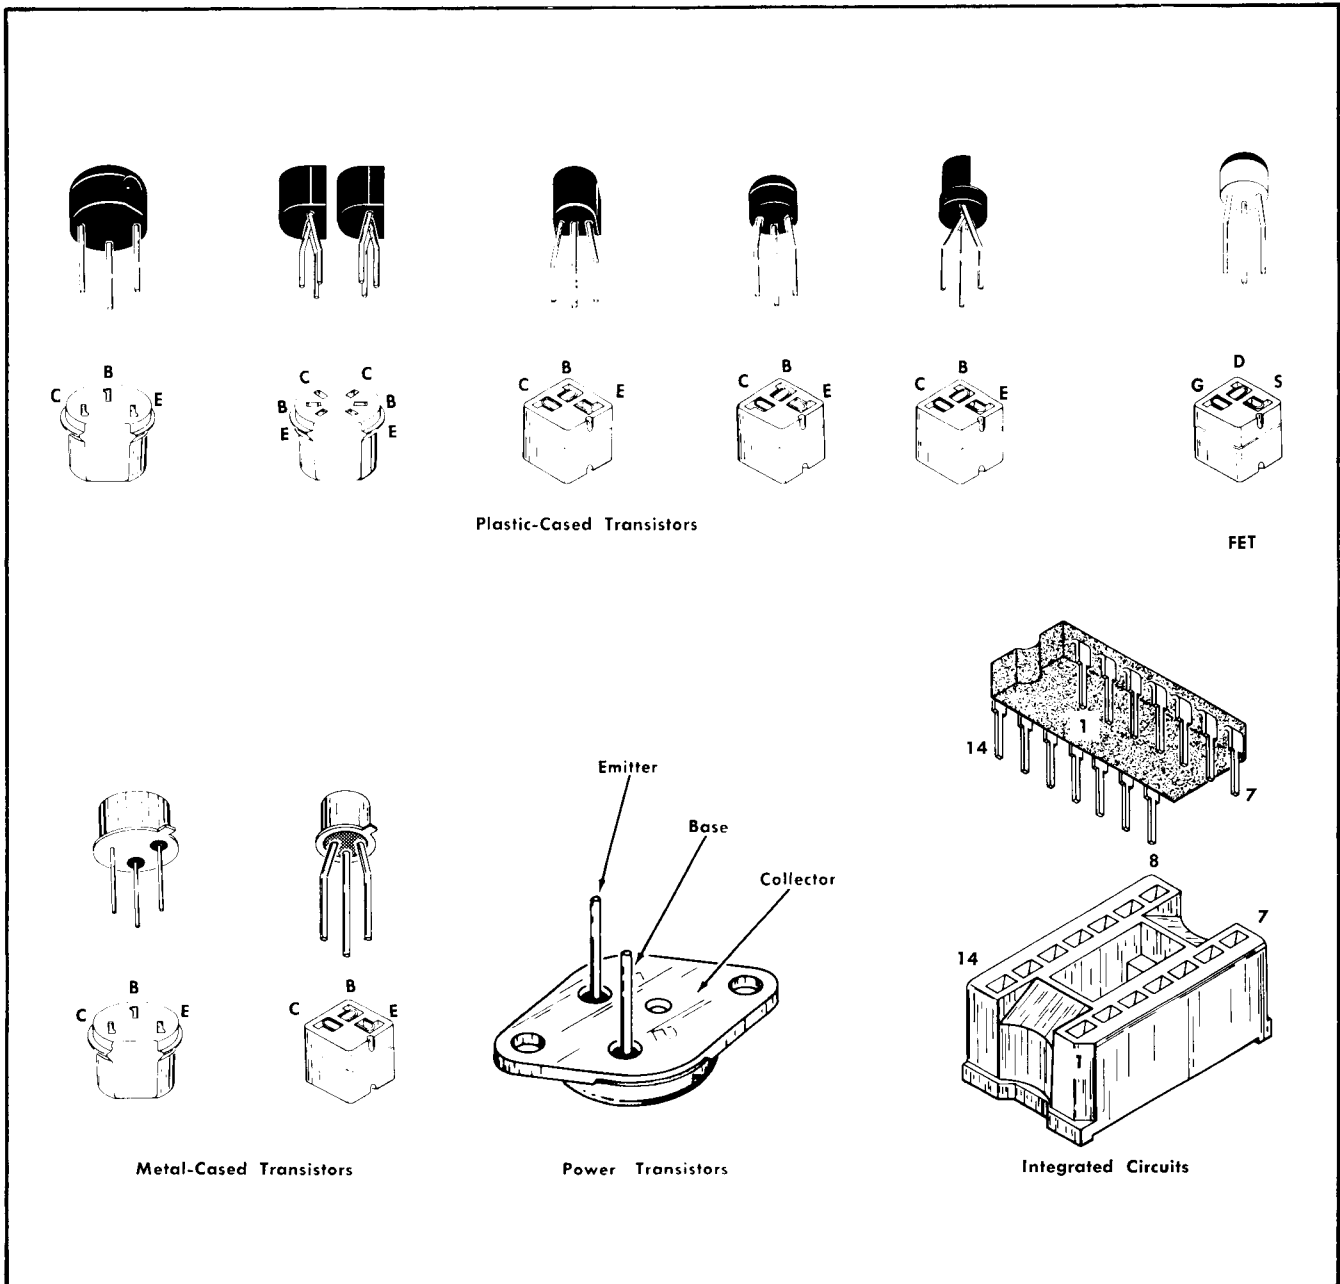

Fig. 4-2. Transistor and integrated circuit electrode configuration data.
**A. TRANSISTORS and INTEGRATED CIRCUITS.** The best check of transistor and integrated circuit operation is actual performance under operating conditions. If a transistor is suspected of being defective, it can best be checked by substituting a new component or one which has been checked previously. However, be sure that circuit conditions are not such that a replacement transistor might also be damaged. If substitute transistors are not available, use a dynamic tester (such as Tektronix Type 575). Static type testers may be used, but since they do not check operation under simulated operating conditions, some defects may go unnoticed. Fig. 4-2 shows transistor base pin and socket arrangements. Be sure power is off before attempting to remove or replace any transistor or integrated circuit.